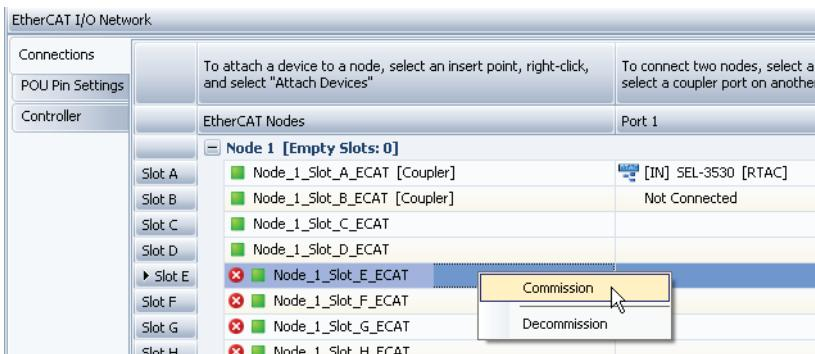

Figure 2.25 Commissioning a Module
- Step 9. Navigate to the **Connections** tab within the editor. As *Figure 2.25* shows, right-click on the entry for the new module and select **Commission**.